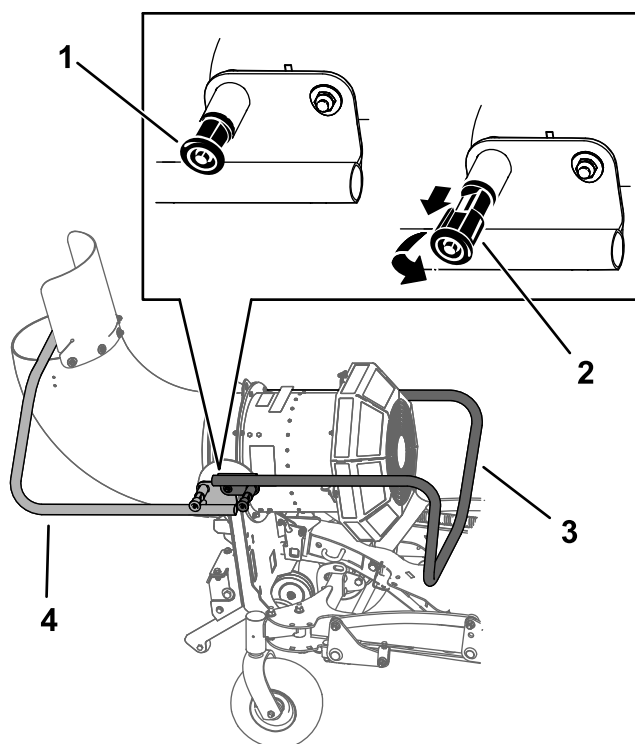

Figure 21
3. Pull out the kickstand locking pins on both sides of the machine, rotate them 90 degrees so that they are disengaged, and raise the kickstand (Figure 21). Engage the knobs and ensure that the pins snap into position.